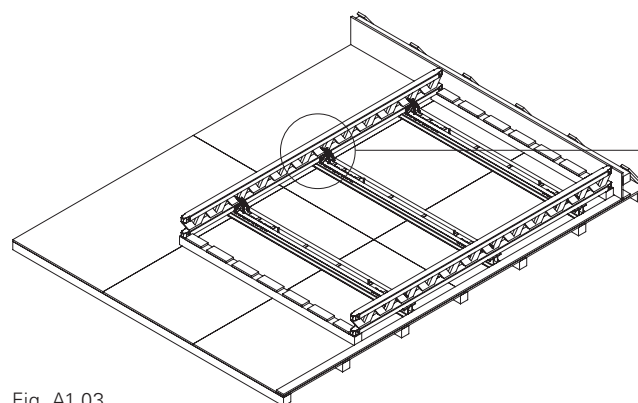
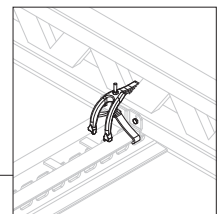
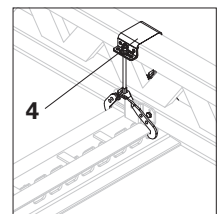

Fig. A1.03
Fig. A1.03a
Fig. A1.03b
3. Position edge beam against the steel waler and secure. (Fig. A1.03) Mounting takes place using Girder Claw and hex. wood screws M8 x 60 (Fig. A1.03a) or Hook Strap HBU (4) and Torx TSS. (Fig. A1.03b)